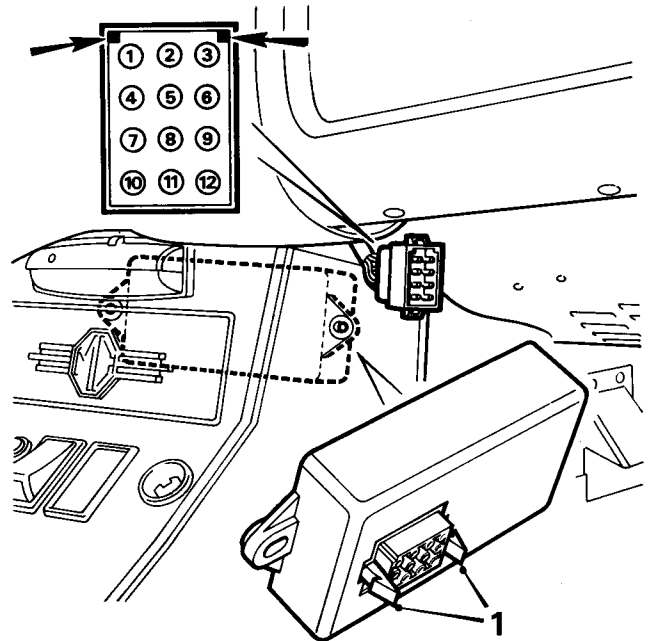

Fig. Na.8
- (1) Batteries in good condition.
- (2) 500 milliamp. line fuse and the 35-amp. fuse connecting fusebox terminals 5 and 6 in good condition.
- (3) Gear lever in neutral position.
- (4) Hand brake applied.
- (5) Compress the two retaining tags (see Fig. Na.8) on the front of the seat belt system control unit and disconnect the wiring harness plug from the control unit.
Referring to Figs. Na.8 and Na.9 for circuit diagram and wiring harness plug pin identification numbers, carry out the following test procedure, using a 12-volt 2·2-watt test lamp and a length of insulated cable.